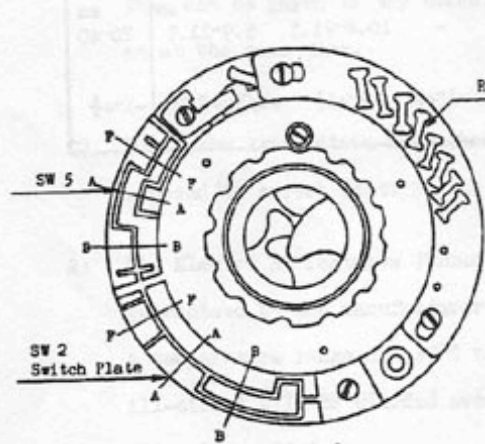

Fig. 3
Unit Type 408. The capacitor (C) connections have been reversed (See Figs. 3 & 4) because the position of SW-3 has been changed. (Unless the capacitor is connected correctly, shutter will remain open).